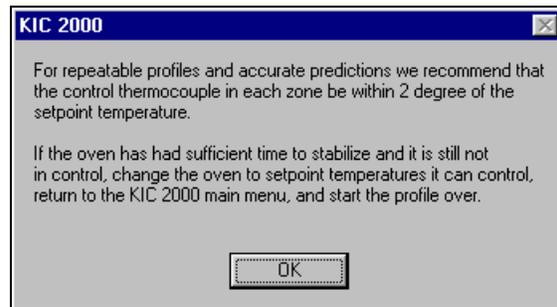

Figure 55
**If you choose NO**, it will ask you to let the oven stabilize. If the oven has stabilized and it still is not within 2 degrees of the set values, your oven is not able to control to those oven settings. Set the control temperatures it can control, return to the *Main Screen* and start the profile over. See Figure 55.